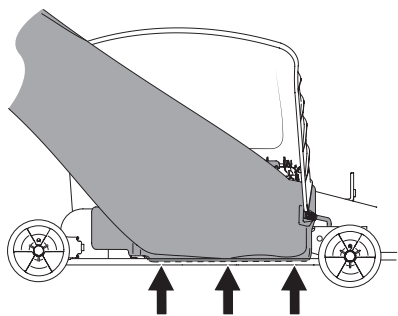

Figure 22
**IMPORTANT!** Be certain that the bottom of the boot is located inside of the lip of the deck opening, as shown in Figure 22.